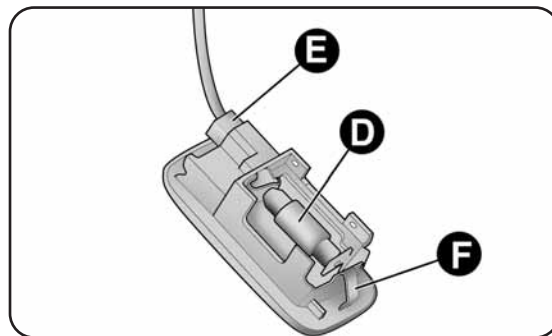

fig. 37
- remove protective cover B, releasing it from tabs C, replace bulb D-fig. 37 by pulling it outwards and releasing it from the side contacts;
- refit the courtesy light by inserting into side E-fig. 37 and then pressing the other side until hearing the locking click of tab F.